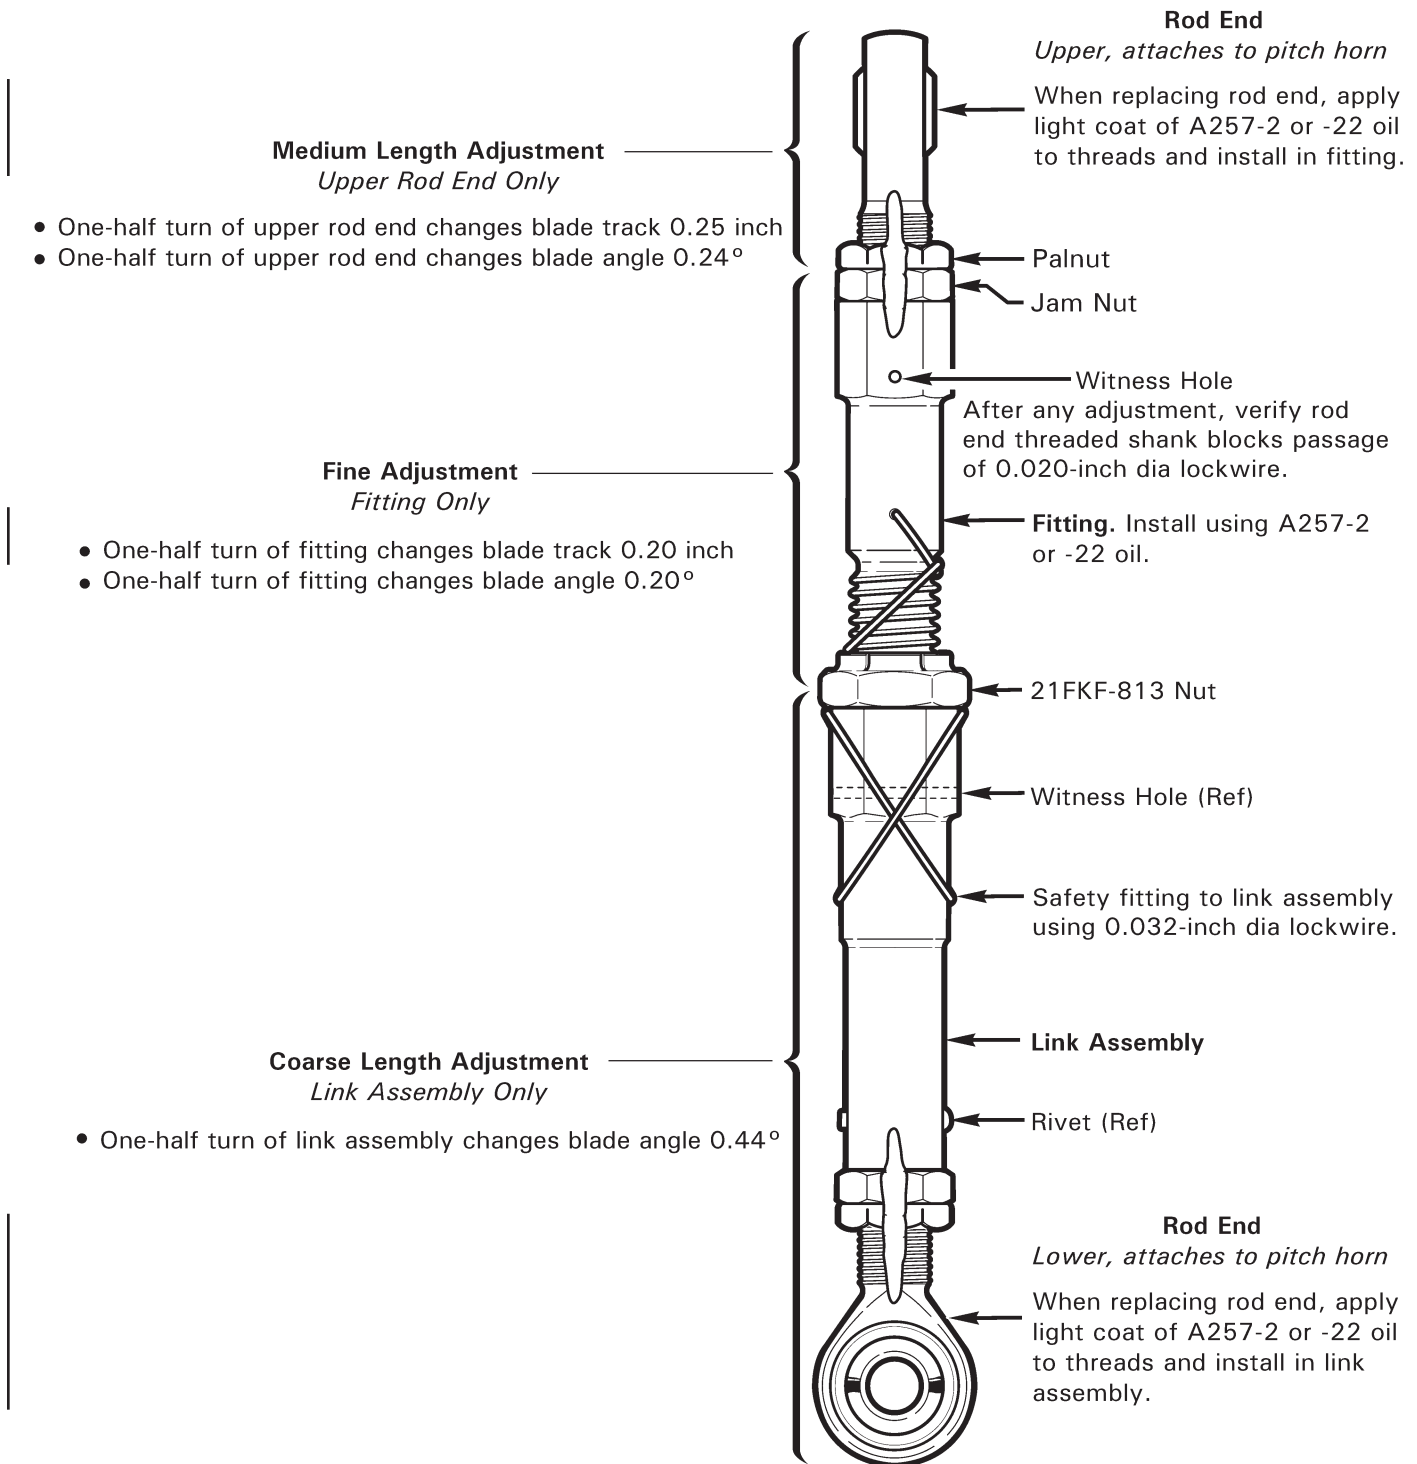

FIGURE 18-3B C258-1 MAIN ROTOR PITCH LINK
- i. Refer to Figure 18-3B. Cut and discard pitch link assembly safety wire. Using backup wrench on link assembly, loosen 21FKF-813 nut; using backup wrench on fitting, loosen upper rod end palnut and jam nut.